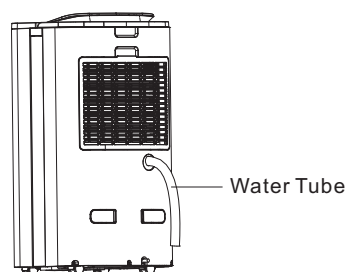

Fig.2
3. Connect the drain hole with an 14mm inner diameter water tube. (Fig. 2)